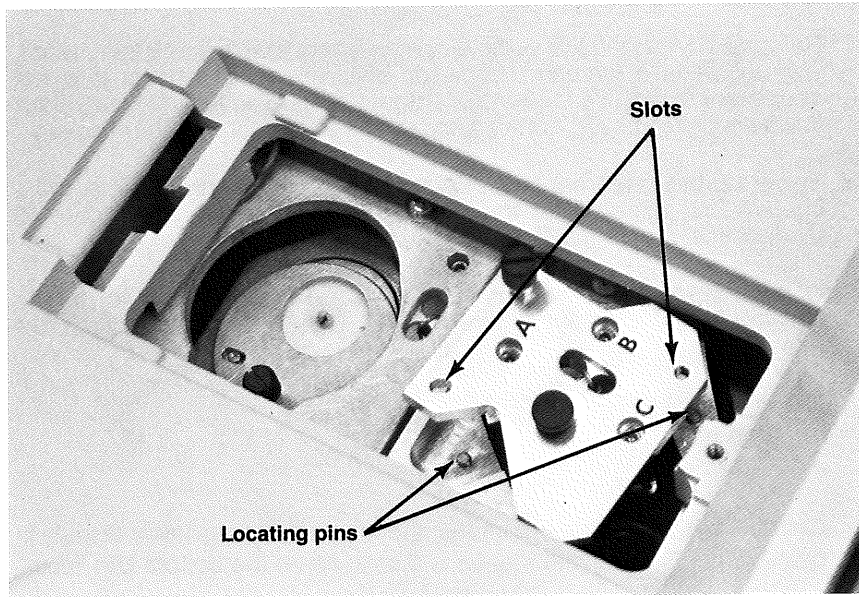

Figure 8-13.
9. Push the cable back into the source mounting area. Position the source bracket so that it is seated on the two locating pins. See Figure 8-13.